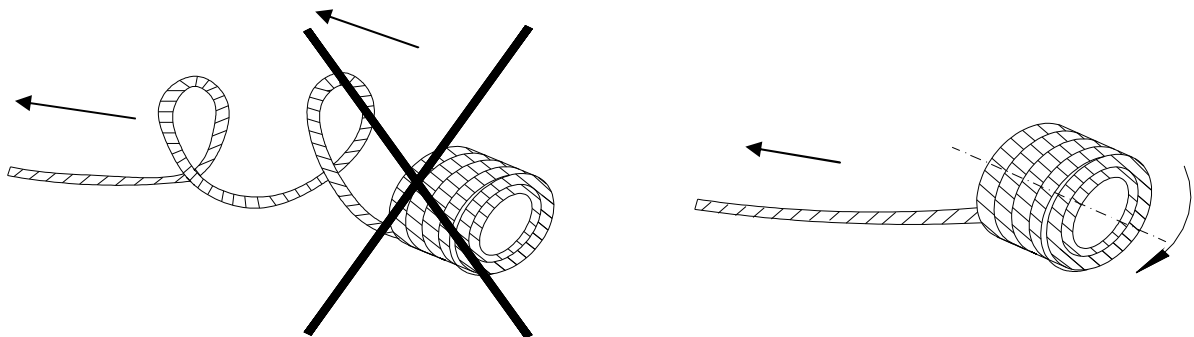

Fig. 10-2-1
1) Completely unwind the rope on the clean ground, avoiding any twist (see **Fig. 10-2-1**). If it is not possible to lie out the whole rope completely, unwind it in large loops. In this way, dangers can be avoided from occurring when the wire rope is wound on the drum.